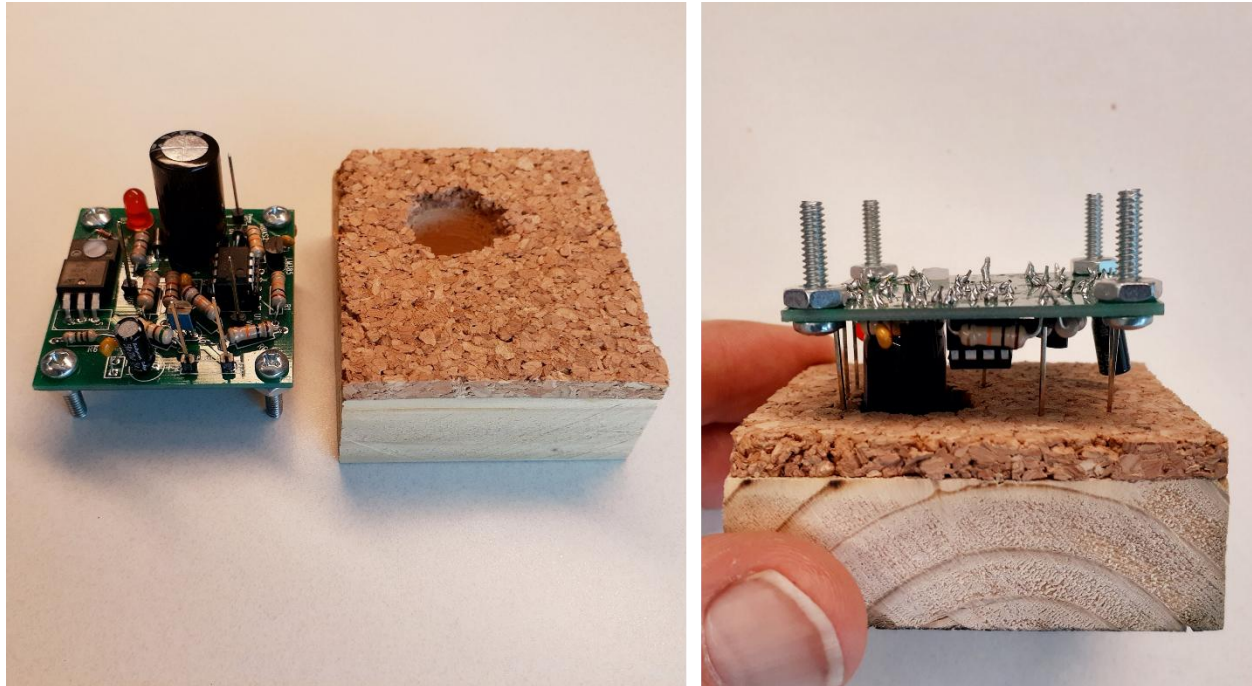

Figure 3: Solder Fixture to Hold the Long Header Pins for Soldering.
It is recommended that the long header pins be the last items soldered onto the PCB. Yet, soldering the long header pins onto the PCB can be challenging, as they will not stand up straight on their own. Hence, the Solder Fixture shown below in **Figure 3** is to be used to hold the long header pins in place for soldering.
9. Solder in the long header pins onto the PCB using a wooden Solder Fixture illustrated above in **Figure 3**.